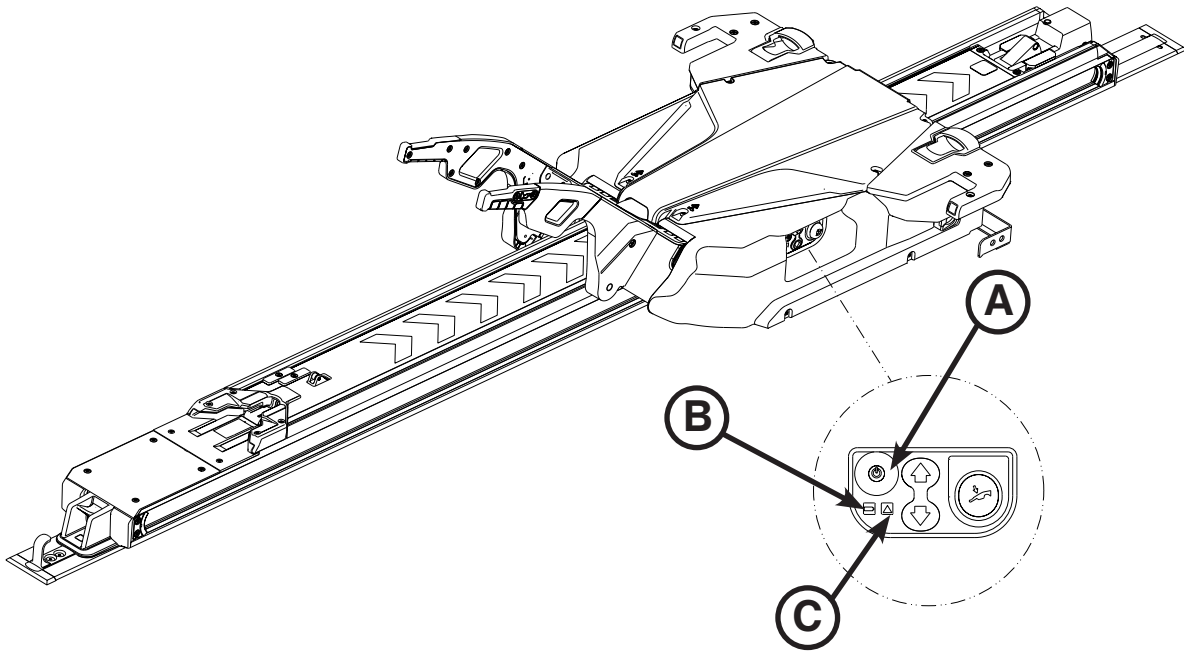

Figure 26: Power-LOAD Control Panel
20. Press the main power button (A), as shown in Figure 26, on the patient left side of the trolley assembly to turn power on to the unit.